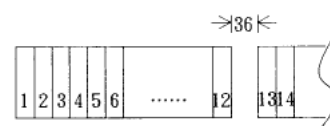

Fig. 1
- ① Make space for 1 point every 12-channel unit when put it horizontally. (Fig.1)